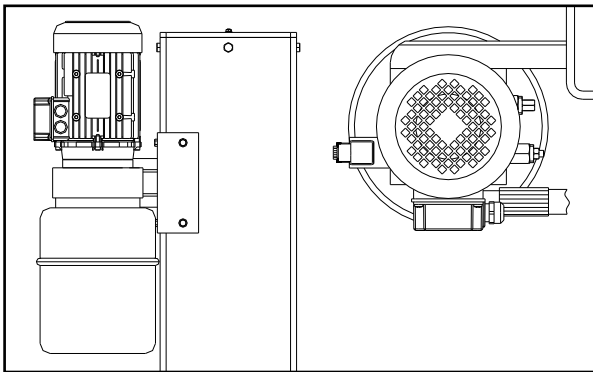

Fig. 31
- ◆ Install the pump on the hock board according to **Fig. 31** and fix it on the bottom of main column.